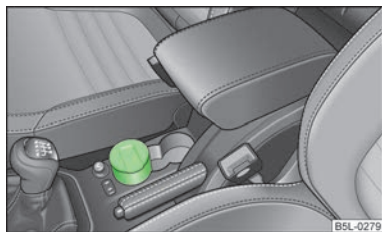

Fig. 67
- Pull out the ashtray » Fig. 67 upwards.